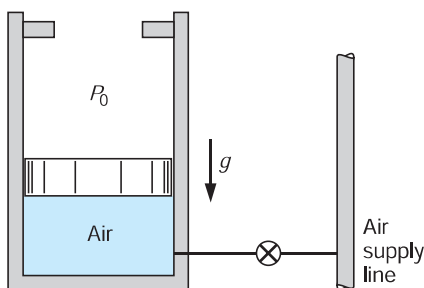

FIGURE P6.140
- 6.140** A mass-loaded piston/cylinder shown in Fig. P6.140, containing air, is at 300 kPa, 17°C with a volume of 0.25 m³, while at the stops $V = 1$ m³. An air line, 500 kPa, 600 K, is connected by a valve that is then opened until a final inside pressure of 400 kPa is reached, at which point $T = 350$ K. Find the air mass that enters, the work, and the heat transfer.